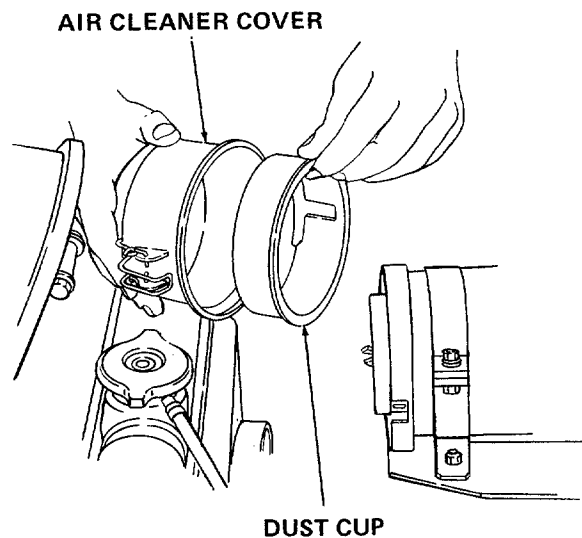

Figure 44
2. Remove and clean out the dust cup every day if the work surroundings are dusty. Never allow dust cup to become half full with dust. (See Figure 44.)